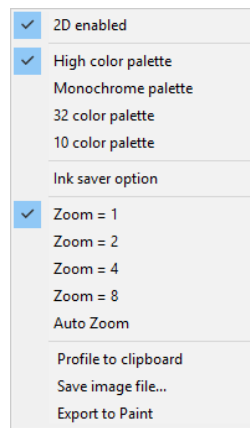

Fig. 4.9: Right-click on the 2D profile to access various display options
Right-click on the 2D area to open the context menu shown in Figure 4.9. Most of which is self explanatory. This allows you to change the palette selection and to zoom the 2D profile area. If a rectangular selection region [white box] for the 3D display has been selected, then the 2D zoom also zooms the 3D area.
- Right-click on the 2D image area to bring up the Zoom and color palette options shown in Figure 4.9. Choose a higher Zoom setting to zoom the 3D image. The sample file is shown above at Zoom = 1.